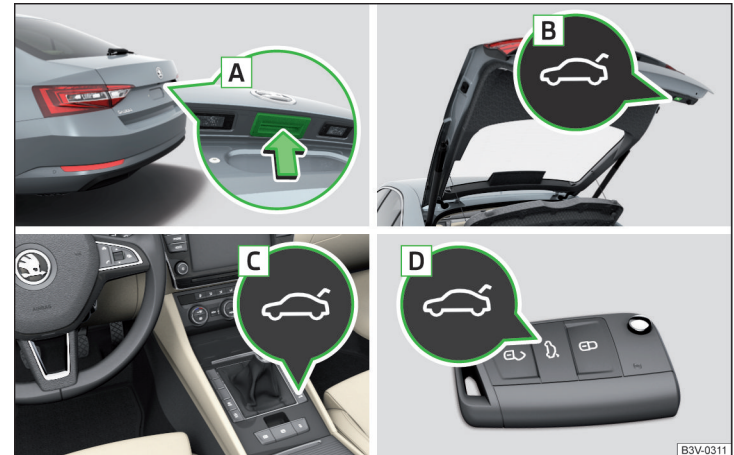

Fig. 38 Lid operation
- ▶ By pressing the handle **A** » Fig. 38.
- ▶ Press pressing the button **B** » Fig. 38.
- Press and hold button **B** » Fig. 38 on page 57 until you hear an acoustic signal.
| The lid does not react to an opening signal | Removing a possible obstacle (e.g. snow), re-opening the lid » page 57 Press the handle A » Fig. 38 on page 57 and pull the lid upwards |